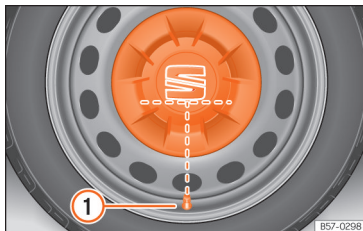

Fig. 33 Correct positioning of the central wheel trim for steel rims.
- Fit the central wheel trim onto the rim. The bottom of the "S" of the SEAT badge should align with the inflation valve »» Fig. 33 ①.